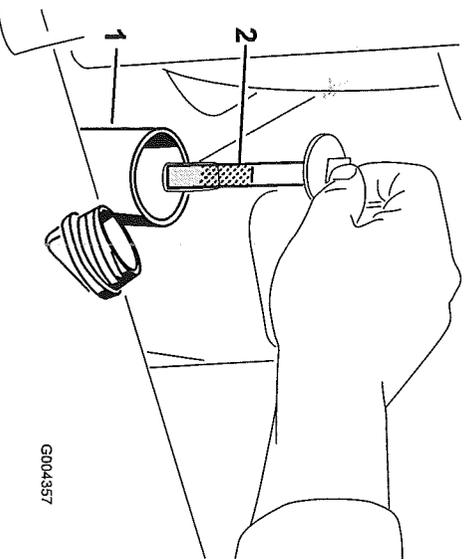

Figure 57
- Remove the hydraulic tank cap and dipstick (Figure 57).